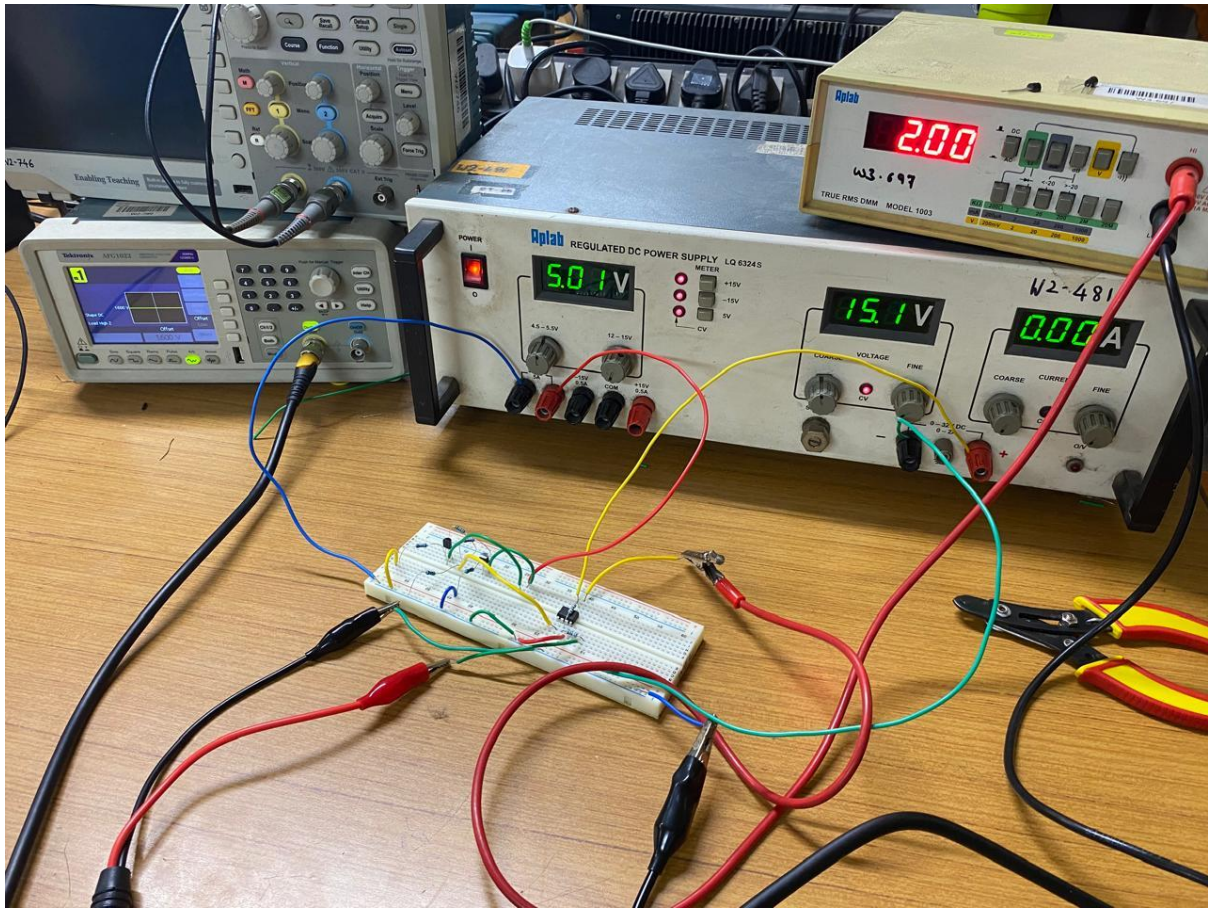

Fig 3
- If both the base terminals are grounded the motor will turn off (refer fig 3).